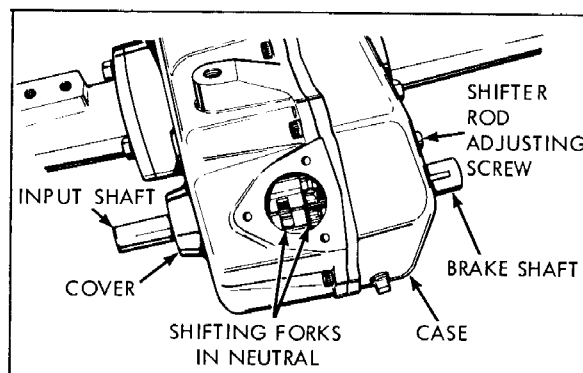

Figure 2-3
2. Position the shifter forks in neutral. (Fig. 2-3)